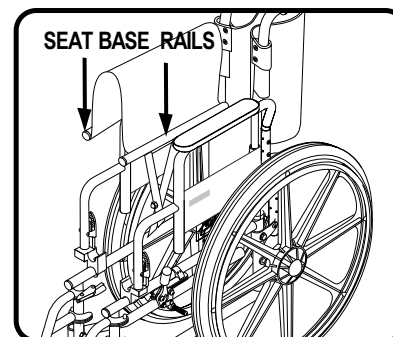

Figure 3. Unfolding the Pride Stylus
3. Place the palm of your hands on each seat base rail. See figure 3.